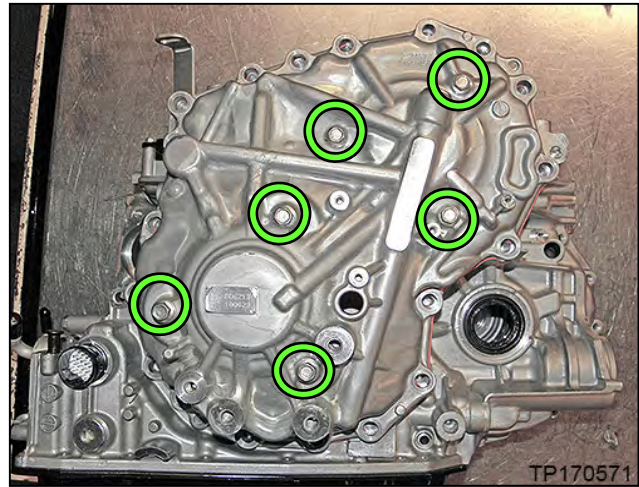

Figure 78
- Install the Lifting Fixture to the CVT case at the six (6) bolt holes shown in Figure 78.
- Tighten the lower six (6) wing-nut bolts.
- Tighten the two (2) joint to triangle brackets.
- Tighten the top two (2) wing-nut bolts, and then proceed to step 60 on the next page.